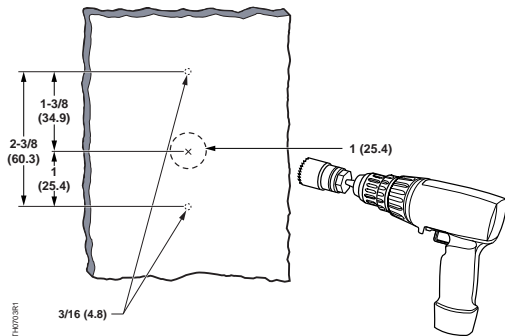

Figure 2. Mounting and Center Hole Locations Dimensions in Inches (Millimeters).
1. Using the sensor base plate as a template, mark the center (cable) hole (use a pencil to press through the rubber insulator) and the mounting hole locations. See Figure 2.
3. Cut a 1-inch (25.4 mm) center hole with a hole saw. See Figure 2.